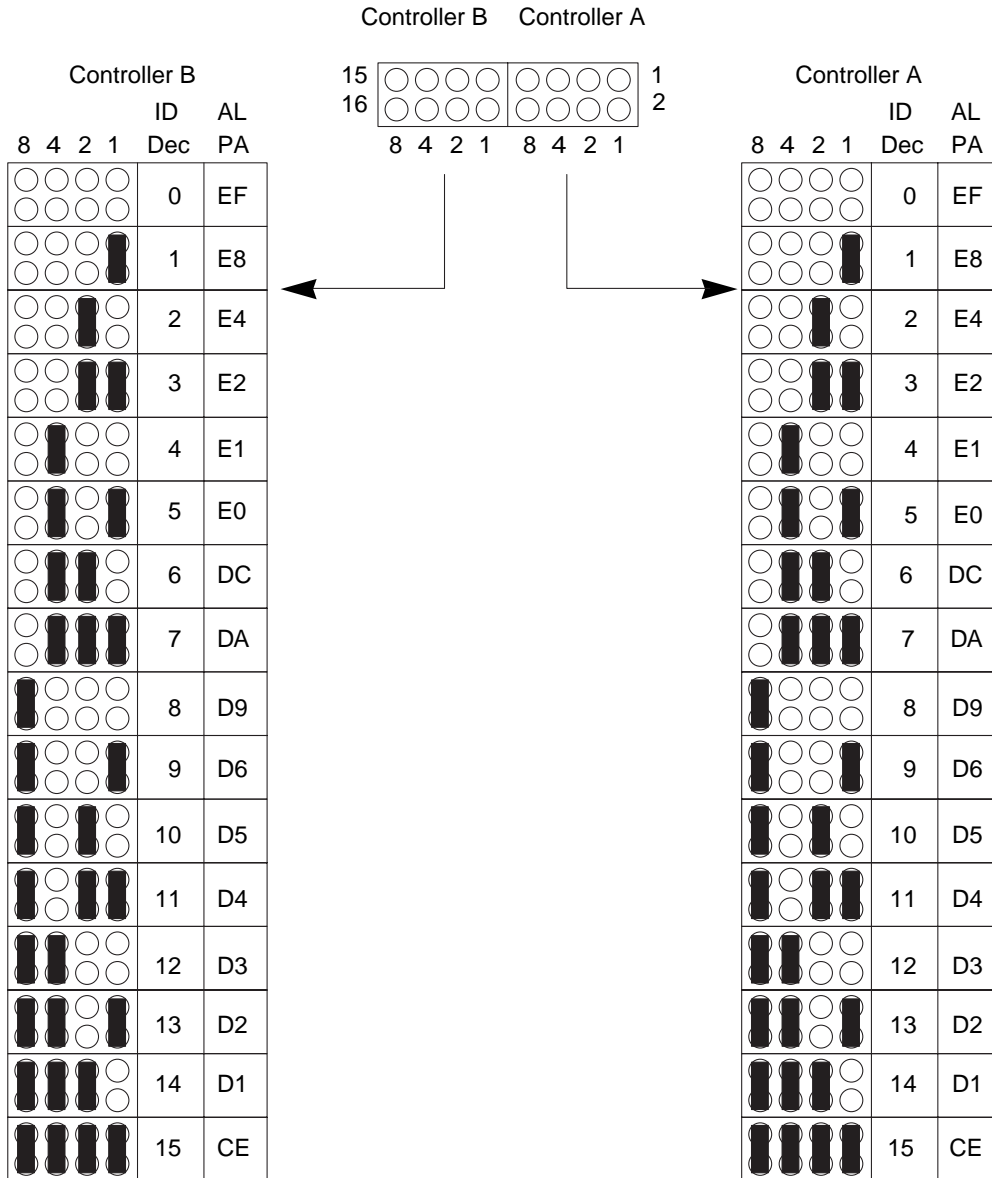

FIGURE 2-8 Controller Module FC-AL ID Settings
- 1. Locate the 16 pins on the rear of the FC-AL controller module (FIGURE 2-8).**
- 2. Wearing the antistatic wrist strap, install jumpers on the pins as shown in FIGURE 2-8.**